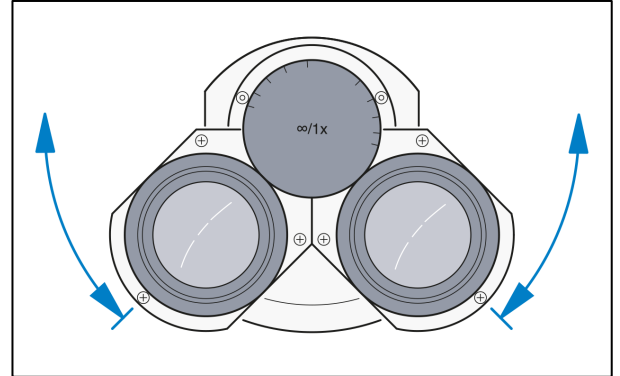

Fig. 4-1 Setting the inter-pupillary distance on the binocular tube
- Adjust the individual inter-pupillary distance by symmetrically swiveling of the two eyepiece tubes towards each other (Fig. 4-1).